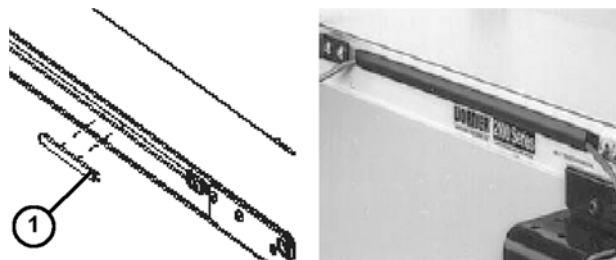

Figure 14
1. To contain a long run of wiring cable in the conveyor t-slot, use several short lengths of t-slot strip closures (**Figure 14, item 1**).